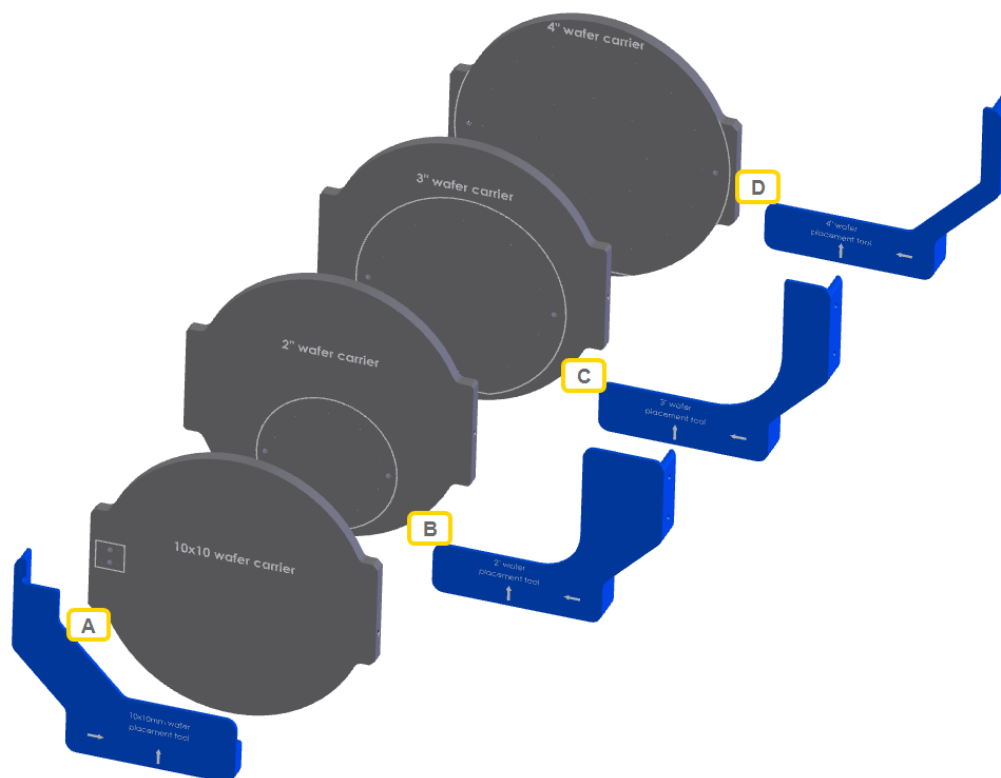

Figure 3-9 Substrate placement tools
1. Select the required backside alignment vacuum chuck and the placement tool needed for your substrate, see **Figure 3-9 on the previous page** and **Table 3-1 on the previous page**.